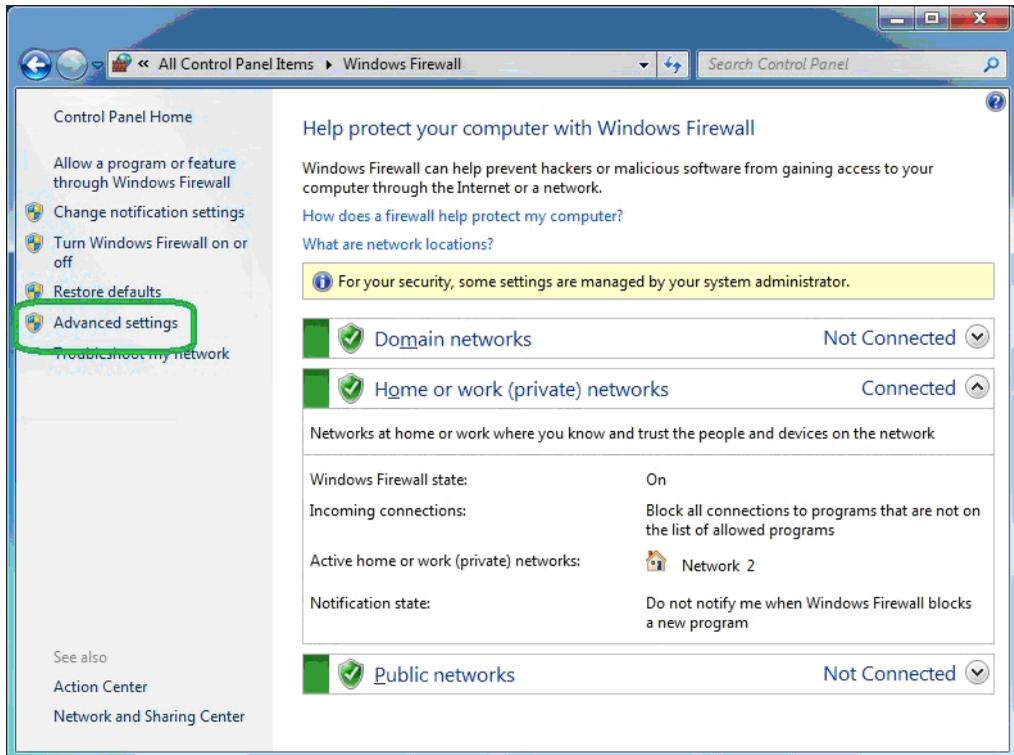

FIGURE 2-36 Windows Firewall - Advanced Settings
Step 3 Click **Advanced Settings**, as shown in FIGURE 2-36.